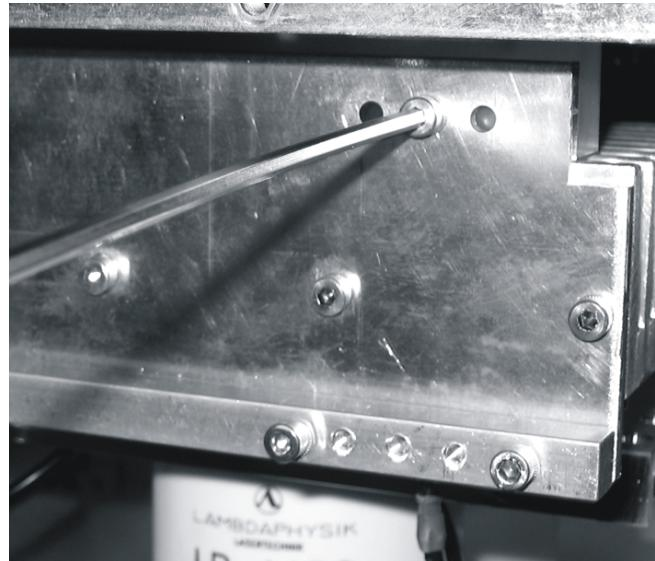

Figure 49: Unscrewing front thyatron securing screws
9. Use the 3 mm allen key to unscrew the two front thyatron securing screws (see Figure 49).
28. Use the 3 mm allen key to insert and tighten the two front thyratron securing screws (see Figure 49).